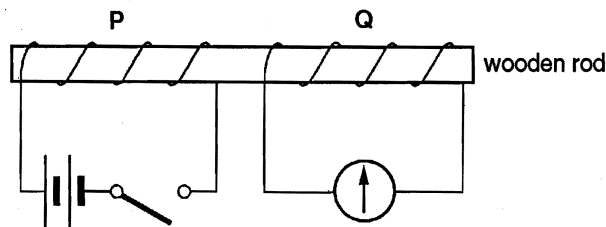

Fig. 8
65 Fig. 8 shows two coils of wire on a wooden core. Coil *P* is connected to a battery in series with a switch. Coil *Q* is connected to a sensitive ammeter. When the switch is closed there is a short-lived deflection on the ammeter.
- (a) On Fig. 8 draw the magnetic field line pattern set up in and around coil *P* when there is a current in coil *P*. [3]